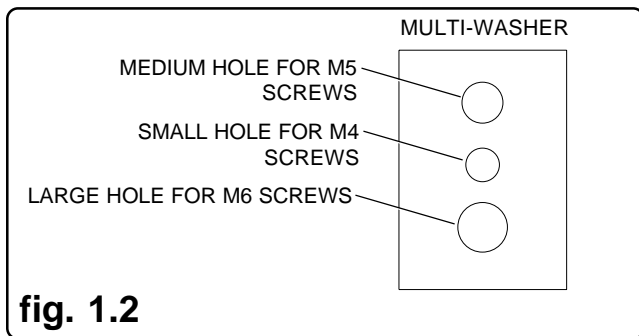

fig. 1.2
- Use the corresponding hole in the multi-washer that matches your screw size as shown in figure 1.2.